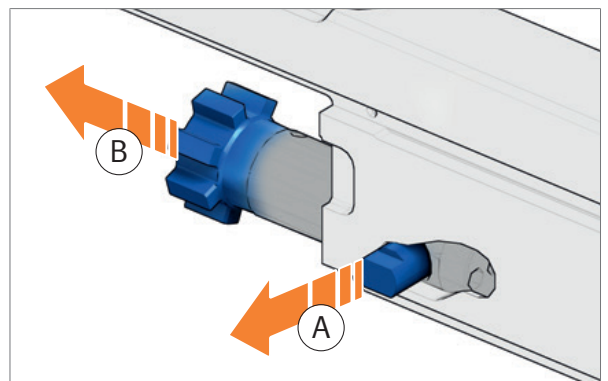

Fig. 108: Remove bolt head
6. Remove control bolt from bolt head (Fig. 108).
7. Remove bolt head from bolt head carrier (Fig. 108).